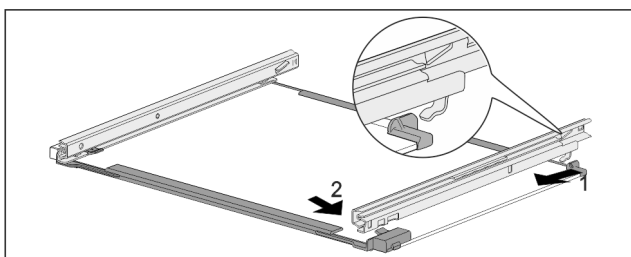

Fig. 132 Glass shelf with rails
- ▶ Hook in rail at the back. Fig. 132 (1)
- ▶ Hook in rail at the front. Fig. 132 (2)